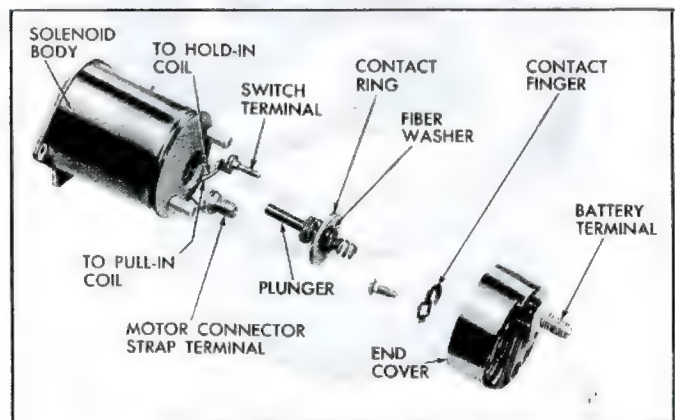

Fig. 12s—Exploded View of Solenoid
1. With solenoid removed from motor, remove nuts and washers from Switch (S) and Motor connector strap terminals.
3. Compress solenoid plunger contact ring slightly and remove outer spring, retainer, fiber washer and contact ring (fig. 12s).